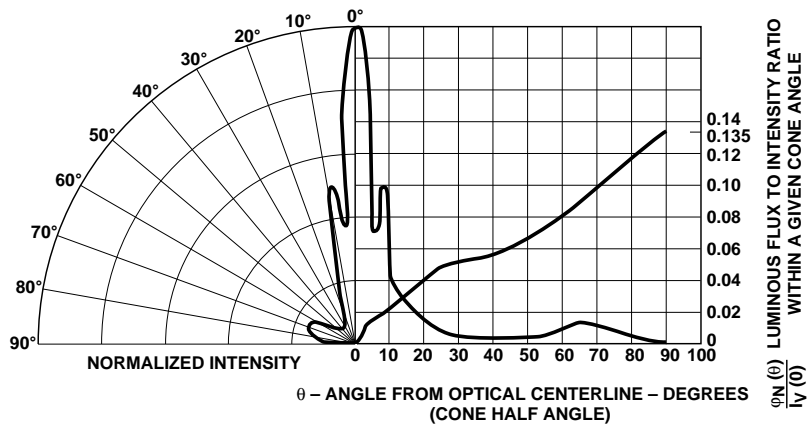

Figure 7. Relative Luminous Intensity vs. Angular Displacement.
3. The approximate total luminous flux output within a cone angle of 2θ about the optical axis, $\phi_v(2\theta)$, may be obtained from the following formula: $\phi_v(2\theta) = [\phi_v(\theta)/I_v(0)]I_v$; Where: $\phi_v(\theta)/I_v(0)$ is obtained from Figure 7.